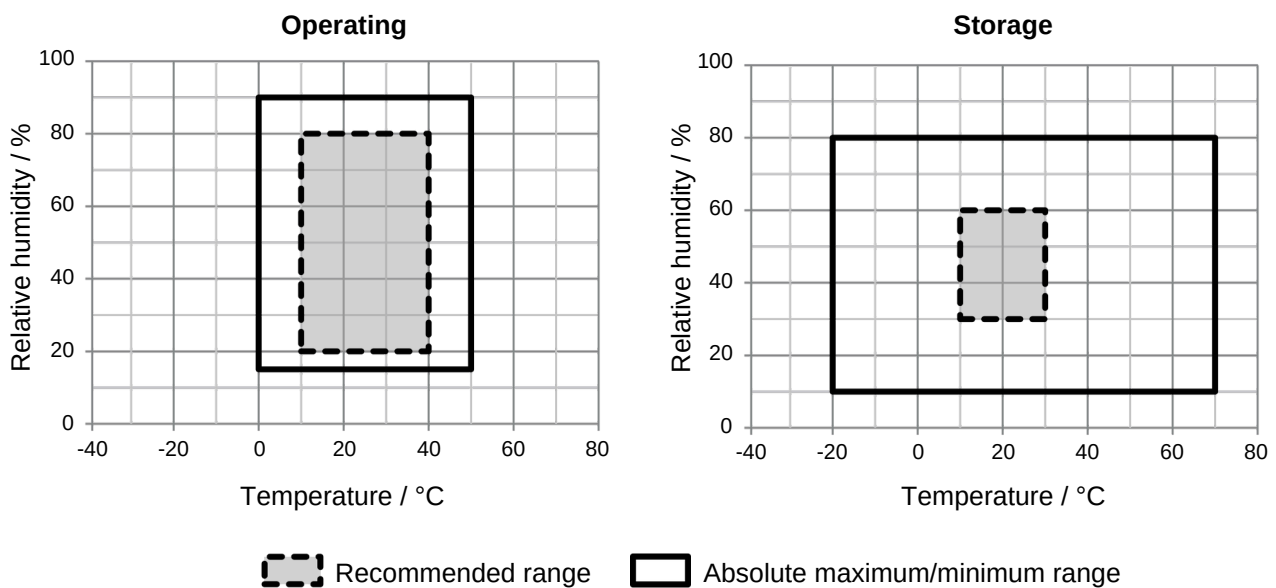

Figure 3. Recommended and absolute maximum/minimum operating and storage conditions for the SEN68
2.7.3 SEN68 Table 10 and Figure 3 show the recommended operating and storage conditions in which all the sensing
components of the SEN68 show the best performance, as well as absolute maximum/minimum conditions which must not be exceeded. Gas sensing specifications are guaranteed only when the SEN68 is operated and stored under the recommended conditions given in **Table 10** and **Figure 3**.